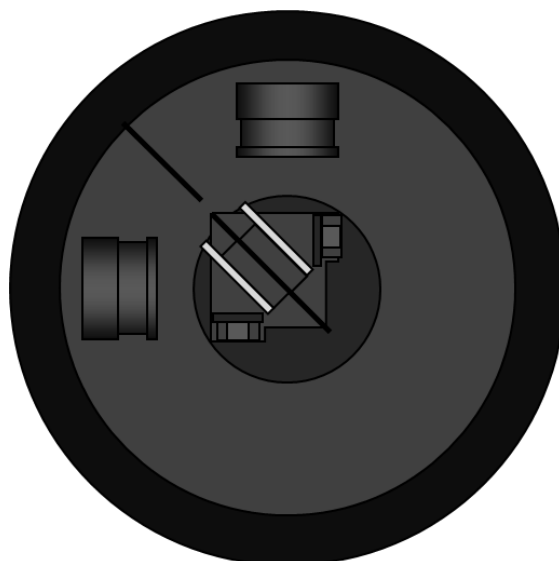

Figure 33: Top-down view of sample holder position, showing LLG launcher installed in correct geometry.
3. Remove the sample holder from the chamber and fit the fibre launch accessory. Be sure to line the accessory up as illustrated in Figure 33: